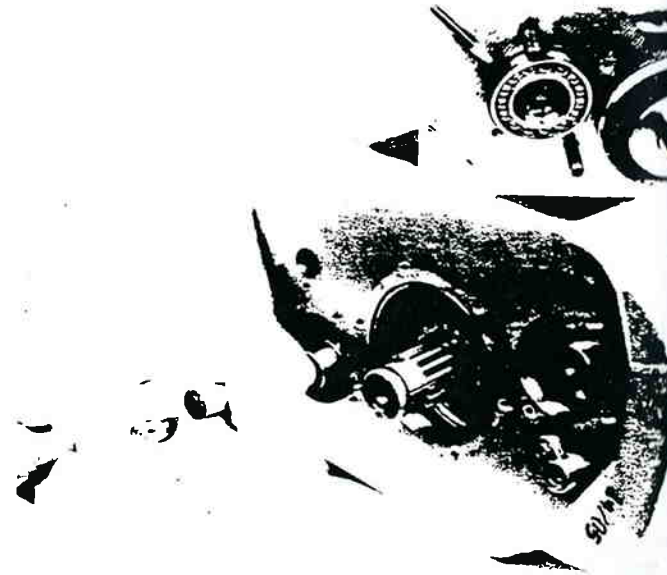

Figure 13-44. Driving Countershaft Forward.
5. With the same soft bar and maul on the rear of each countershaft, drive the countershafts forward to expose the front bearing retaining rings (figure 13-44). Remove the retaining rings.